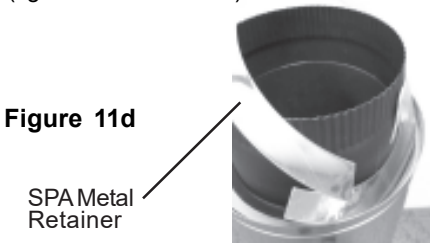

Figure 11d
3. Wrap the metal retainer around the SPA stub and under the inward bead found on the inlet end of the outer chimney casing (figures 11d and 11e).